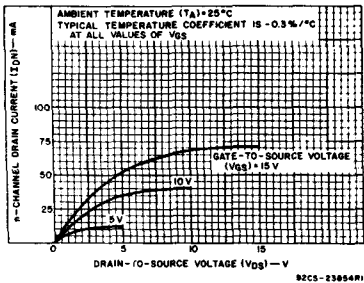

Fig. 5— Typical n-channel drain characteristics for Q output.
** If more than one unit is cascaded in single-phase parallel clocked application, t_{rCL} should be made less than or equal to the sum of the propagation delay at 15 pF, and the transition time of the output driving stage. (See Figs. 5 and 7 for cascading options.)